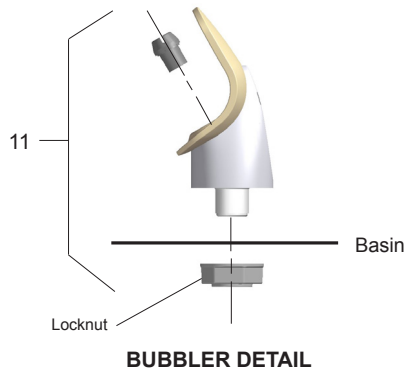

Fig. 11
- 16) Remove filter from carton, remove protective cap, attach filter to filter head by firmly inserting into head and rotating filter clockwise. Ensure that blue label can be read when filter is installed. (See Fig. 11, Pg. 7).
- 6) Insert new filter into existing filter head and turn fully clockwise. Make sure you can read the label on the front of the filter once it is installed. (See Fig.11, Pg. 7).